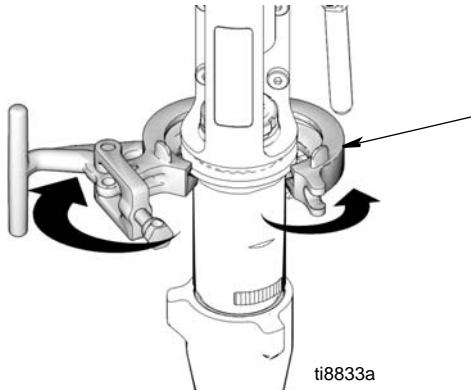

FIG. 18
- 8 (Fig. 18) Open clamp (247).